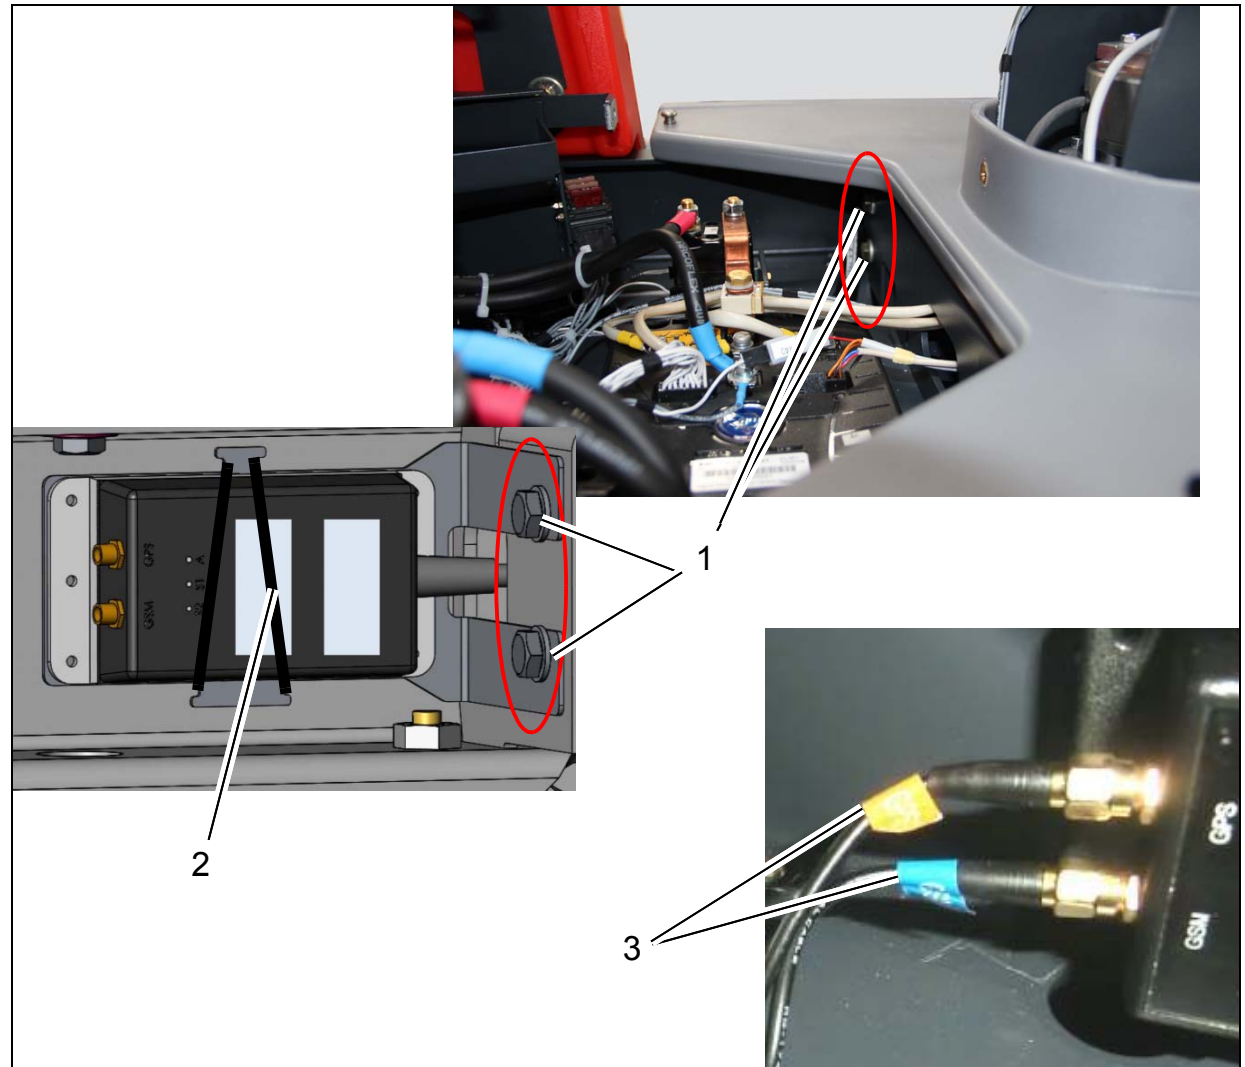

Fig. 10
1. Attach the holder for the Fleet-Recorder in the electronics compartment using the available screws and washers (Fig. 10/1).
2. Fix the Fleet-Recorder to the holder using the O-ring (Fig. 10/2).
3. Connect the antenna cable to the GPS and the GSM connections of the Fleet-Recorder (Fig. 10/3) according to the labelling.